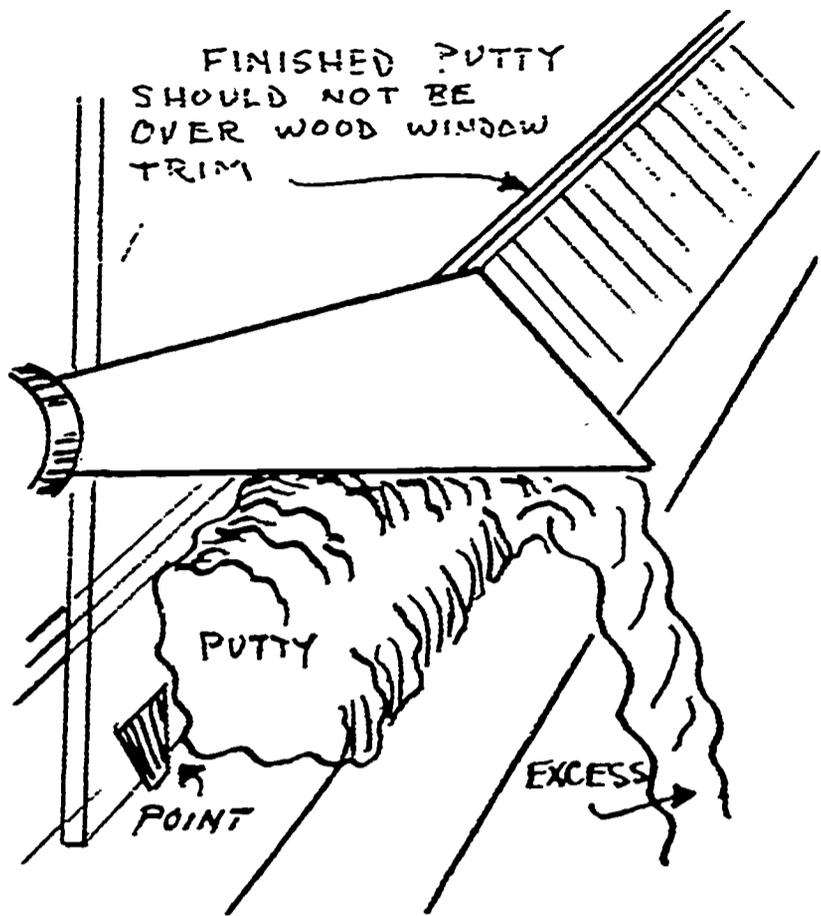

FIG. 243
7. Lay in a bead of glazing compound and trim with putty knife. The putty should not be thicker than the interior wood sash frame. See figure 243.